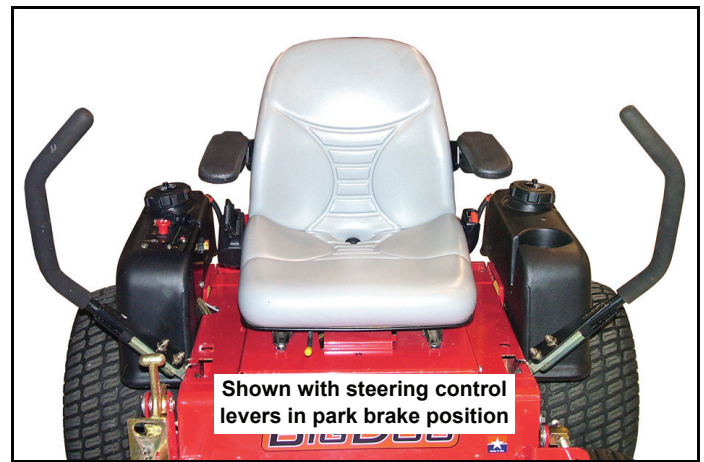
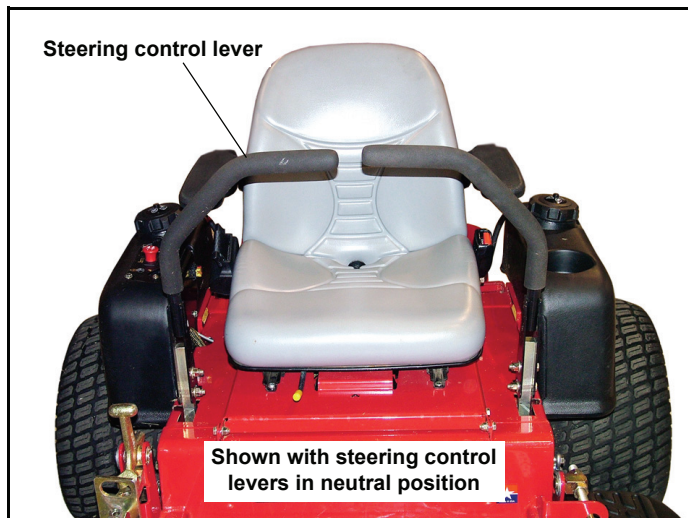

Fig. 3-4
Fig. 3-3
- A. **Steering control levers (Fig. 3-3 & Fig. 3-4)** — these levers control the mower's speed, direction, stopping, neutral lock, and park brake. Levers are used to steer, accelerate, decelerate, stop and change direction. When the control levers are in the park brake position (3-3) the mower will not move when the engine is on and drive pumps are operating.